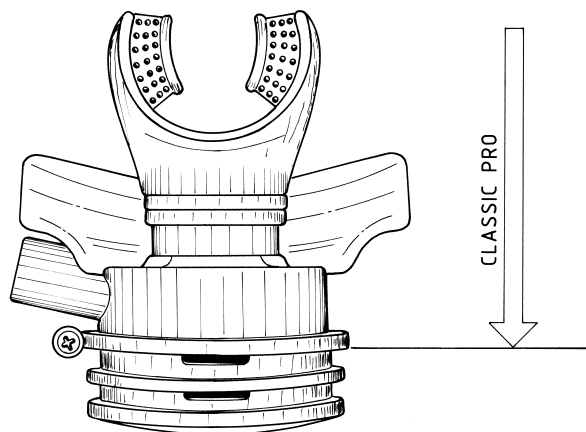

Fig. 4
- B. When the water level, measured from the point indicated in the diagram (Fig. 4) falls between the cracking values indicated in the table, the air should start to flow. (see tab. A)
2ND STAGE MODEL CLASSIC PRO	CRACKING POINT POINT INDICATED IN THE FIGURE (Fig. 4)